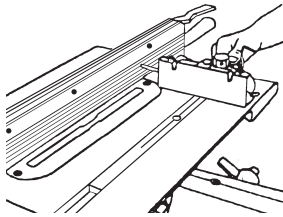

Figure 70
4. Slide the Miter Gauge back and forth in the Slot, as seen in Figure 70. The tip of the Allen Wrench should keep in slight contact with the Rip Fence. Watch that you don't scratch the Fence.